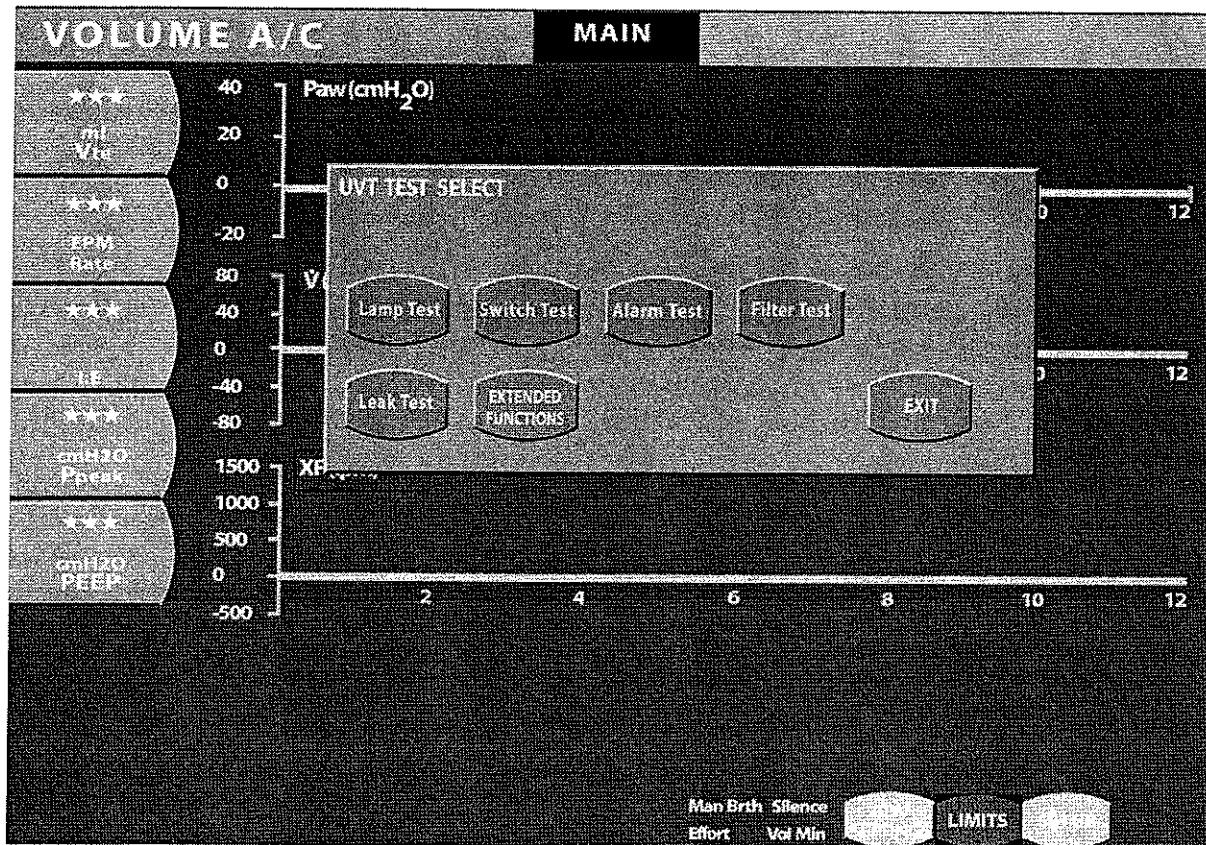

Figure 4.2 The UVT Screen with the Main screen in Service mode
5. Press the **Patient Removed** touch screen icon, the UVT test selection screen displays (see figure 4.2).